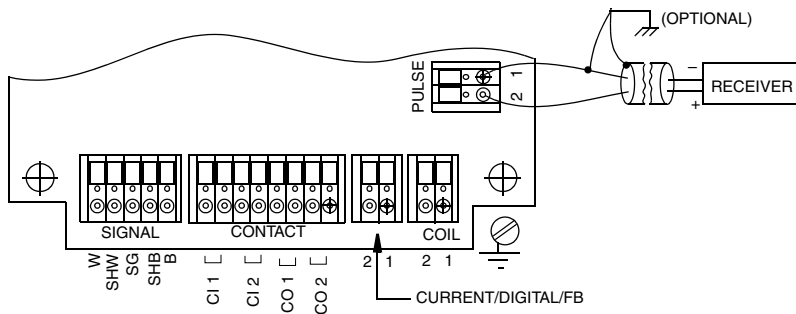

Figure 27. Pulse Output Wiring - Internal Power
2. Grounding the internally powered pulse at pin 1 is recommended, but not required; grounding externally powered pulse output at the negative terminal of the power supply is also recommended. See Figures 27 and 28.